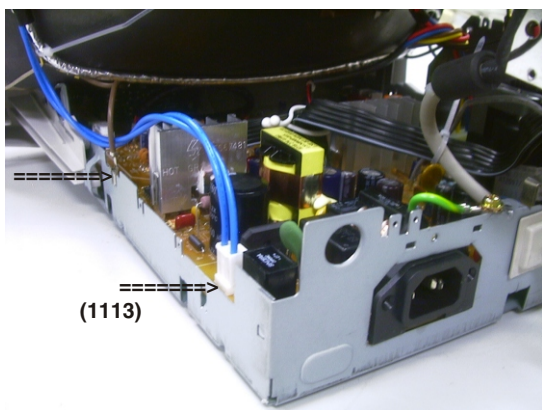

Fig. 6
- Disconnect the degaussing coil (1113) from Main panel as shown in Fig. 6.